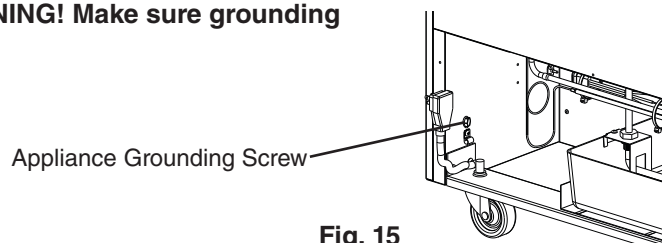

Fig. 15
- 13) Attach and secure the wire harness receptacle ground green (GR) wire to the appliance ground screw. See Fig. 15. **WARNING! Make sure grounding wires are attached and secure.**